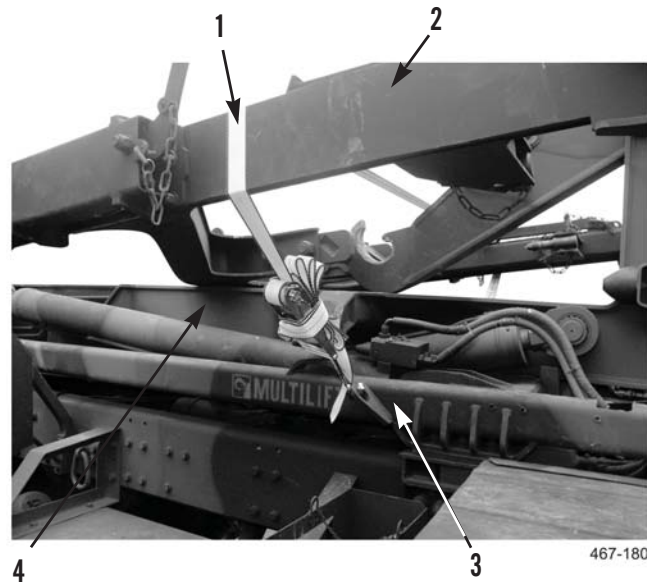

Figure 11. Raise Lift Frame.
9. Remove ratchet strap (Figure 11, Item 1) from lift frame (Figure 11, Item 2) and truck frame (Figure 11, Item 3).
10. Attach sling and lifting device to lifting eye at top of lift frame (Figure 11, Item 2).